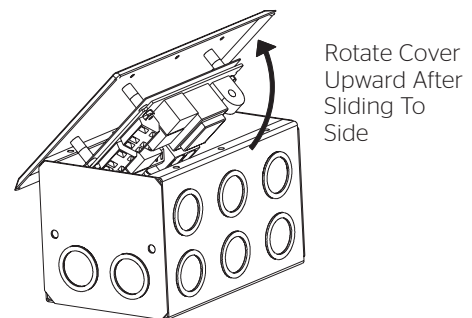

Figure 4
3. Rotate up and remove. See Figure 4.